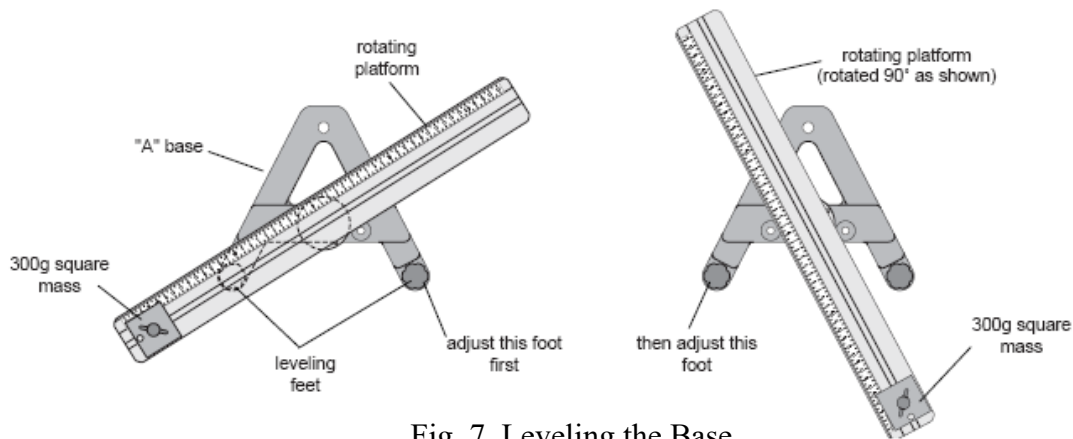

Fig. 7. Leveling the Base
- (b) Adjust the leveling screw on one of the legs of the base until the end of the track with the square mass is aligned over the leveling screw on the other leg of the base. See Fig. 7.